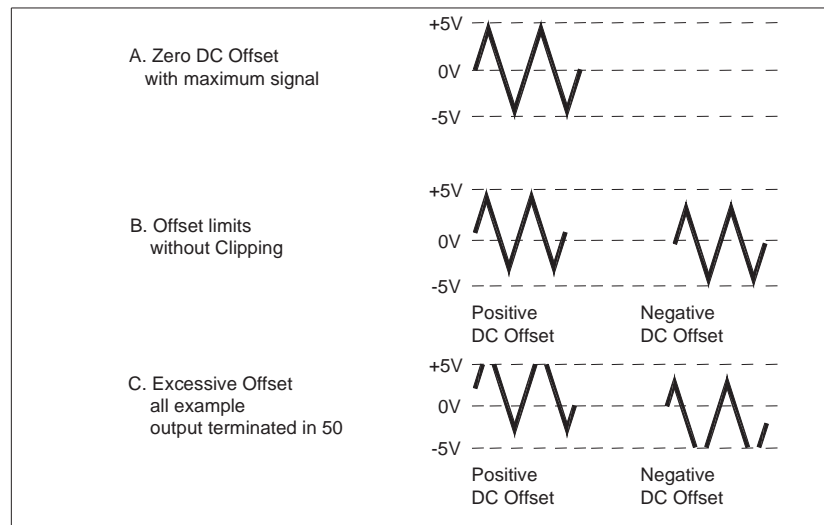

FIG 4. USE OF DC OFFSET CONTROL
- A. The DC offset control can provide over ± 10 volts open-circuited, or ± 5 volts into 50Ω load. Remember that the combined signal swing plus DC offset is also limited to ± 10 V open-circuited, or ± 5 V into 50Ω. Clipping occurs slightly next page these levels. FIG 4. illustrates the various operating conditions